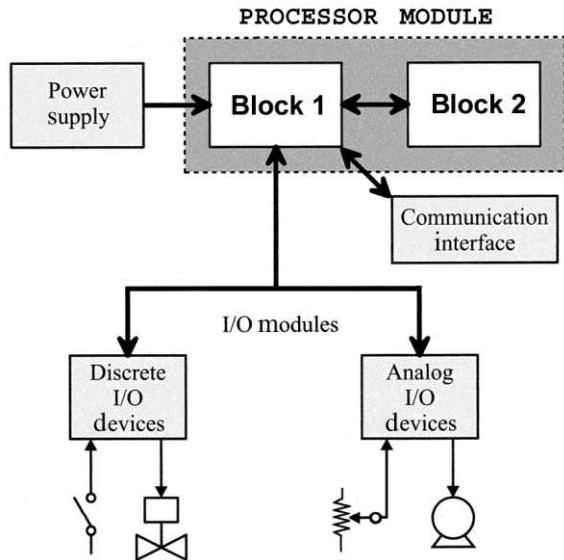

Figure 2-11 Processor module for question 42.
42. For the processor module shown in Figure 2-11, Block 1 represents 42._____ the ____ and Block 2 the ____.